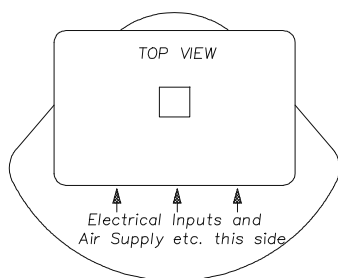

FIGURE 1. Mid Travel Orientation of Actuator Square and Positioner Box.
2.1.1 Move actuator vane to mid travel position, with its output square as shown in Figure 1. This is essential to prevent subsequent error in orienting positioner square.
2.1.3 Bolt the positioner body to the actuator in the orientation shown in Figure 1, taking care that O-rings are in place to seal the ports into the actuator, and that the actuator shaft is centred in its hole.